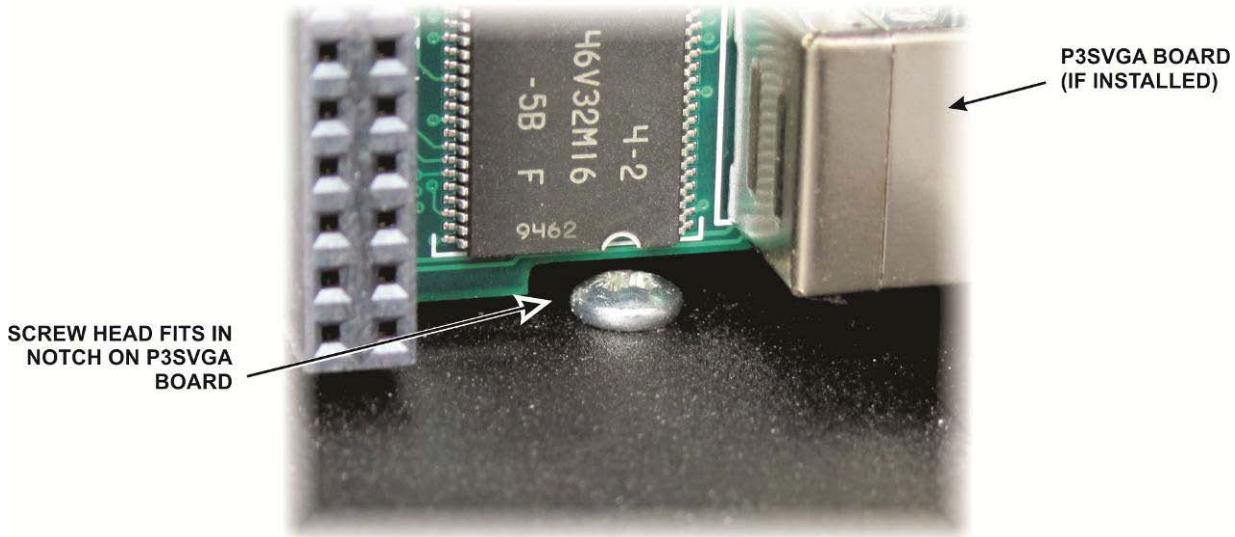

Figure 20. Clearance Notch in P3SVGA board.
- Mount the rear panel assembly to the end of the bottom cover that has the two round feet using a 3/16" (4.8 mm) pan head screw into each 2D fastener. If the optional P3SVGA board is installed, note that a notch in the bottom of the board clears the screw for the rear foot (see Figure 20).